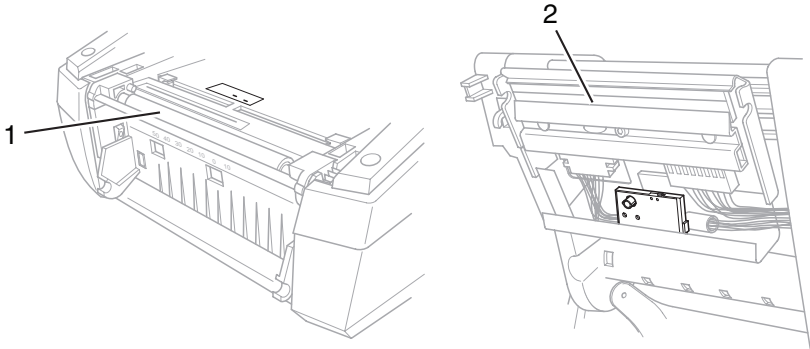

Figure 22, Printhead and Media Feed Rollers
4. Use a cotton swab and a solvent of 90% isopropyl alcohol or Preventative Maintenance Kit PCK-4 to carefully rub the surface of the printhead (**Figure 22, 2**) and the media feed rollers (**Figure 22, 1**) being careful not to scratch the printhead.